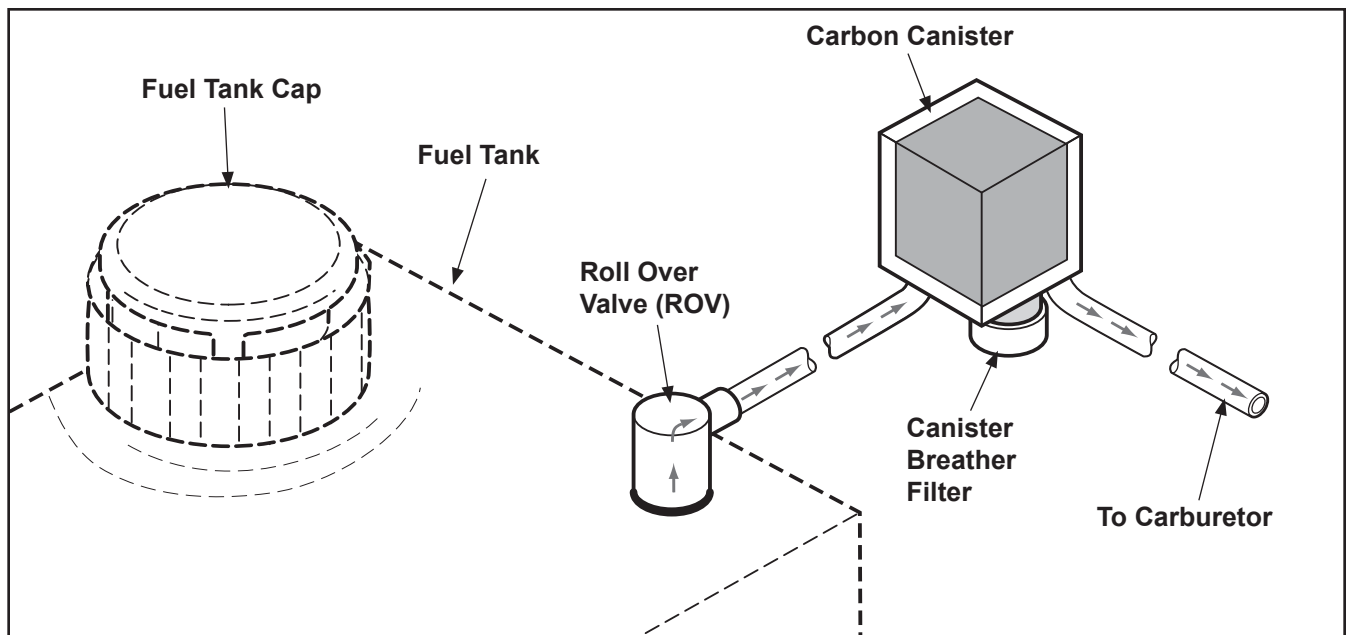

Figure 11-1. Carbon Canister System Diagram.
**Operation:** Fuel vapors travel from the fuel tank through tubing to the carbon canister. On the intake stroke of the engine fuel vapors are drawn in through a port in the carburetor and burned with the fuel charge. See Figure 11-1.
**Maintenance:** On Kohler-supplied canisters, the breather filter can be removed and cleaned with hot soapy water, dried and reinstalled. Do not oil the breather screen. This is done periodically or if system operation is suspect. The carbon canister is sealed and requires no maintenance. See Figure 11-1.